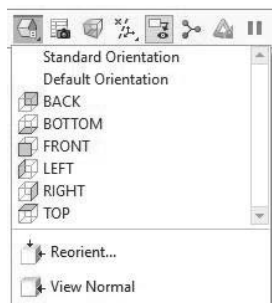

Figure 3-13 Named View List
**Saved Orientations**—Selects the view orientation including user-defined orientations. See Figure 3-13. The *reorient...* tool at the bottom of the pull-down menu lets the user create new user-defined orientations.